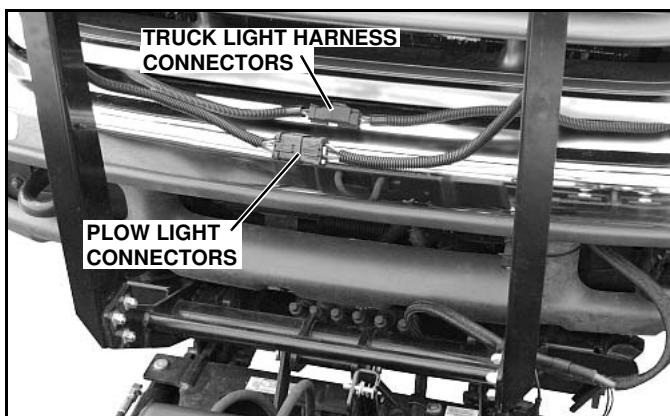

Figure 1-22
3. To prevent corrosion on the contacts, plug the male and female connectors on the plow together (See Figure 1-22).
4. To make the truck lights operable, plug the male and female connectors on the truck light harness together (See Figure 1-22).